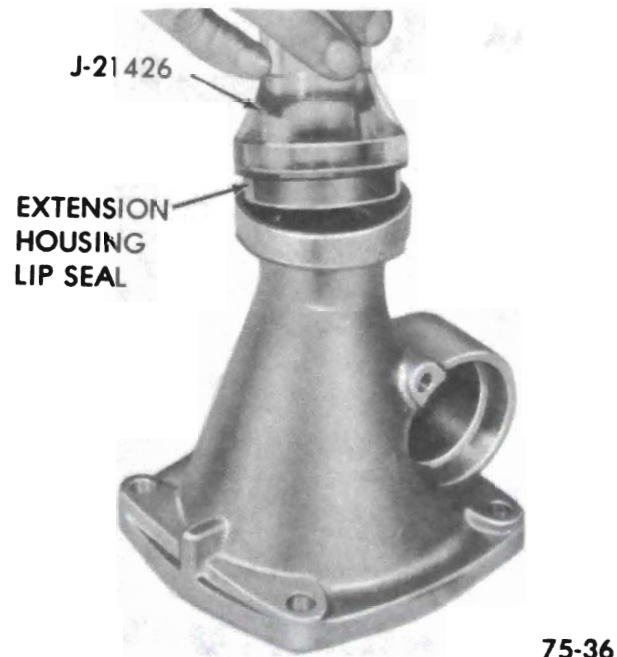

Figure 75-78
1. Install extension housing lip seal using Installer J-21426. See Figure 75-78.